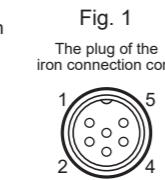

Fig. 1
- Measure the resistance of the plug of the iron connection cord. (Fig. 1)
Normal resistance <2 Ω (Fig. 1)